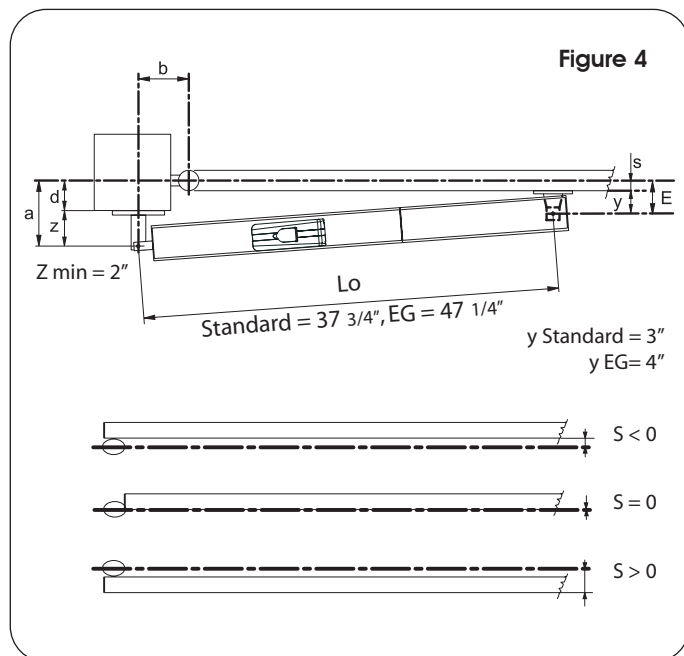

Figure 4
- The minimum **Z** dimension is 2 inches (Fig. 4);